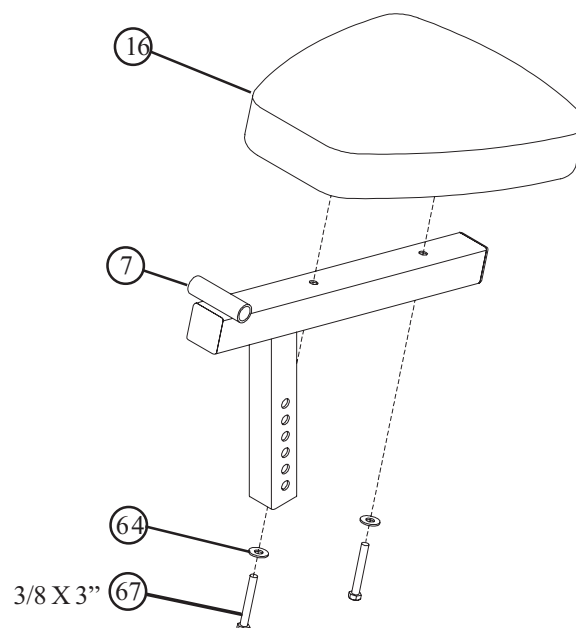

FIGURE 7
- A. Securely assemble one SEAT PAD (16) to the SEAT ADJUST (7) using two 3/8 x 3" SILVER BOLTS (67) and two 3/8" WASHERS (64). See Figure 7.